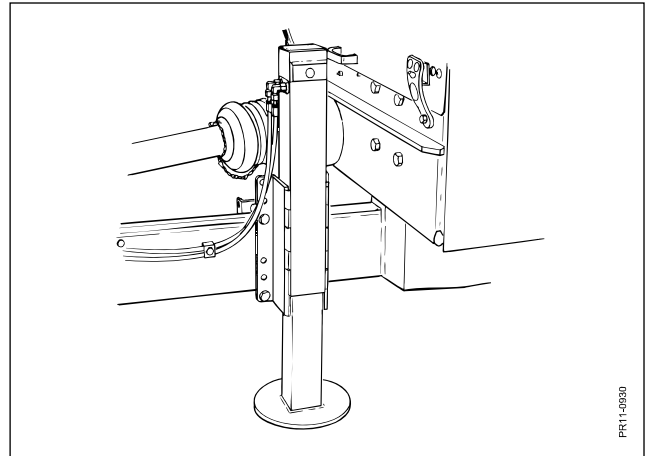

Fig. 4.8
- Fig. 4.8** A hydraulic jack is optional (regarding ordering No.: see spare parts list). This jack requires the tractor to have a double acting take-out, in addition to a single acting for the other hydraulic functions.